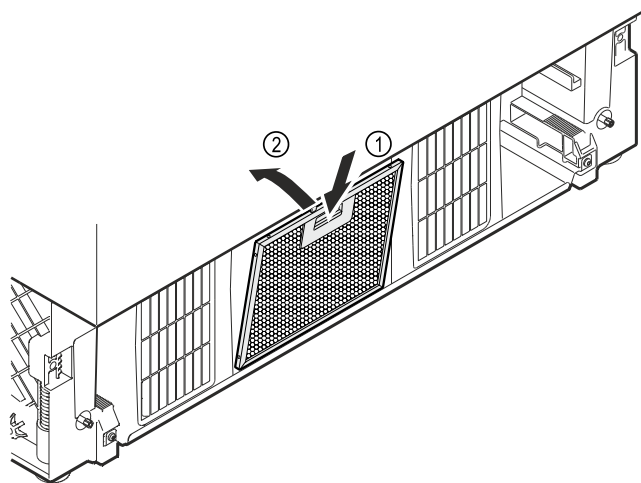

Fig. 13 Example illustration
- Press the button on the dust filter downwards Fig. 13 (1) and at the same time tilt the dust filter backwards and insert it Fig. 13 (2).